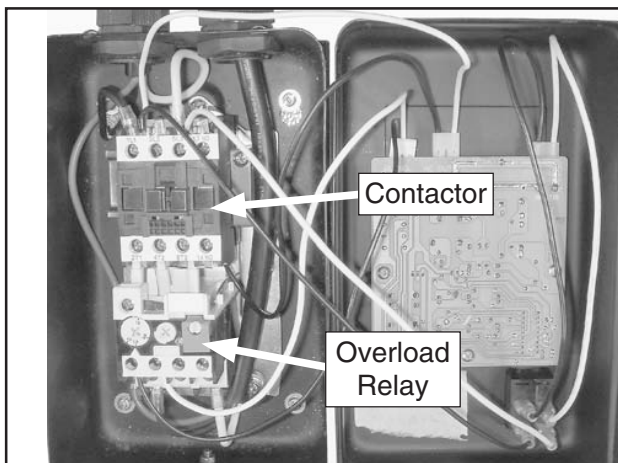

Figure 4. Model G0443 remote magnetic switch wiring.
2. Open the remote magnetic switch, then record the wire locations on the top of the contactor and the bottom of the overload relay (see **Figure 4**).